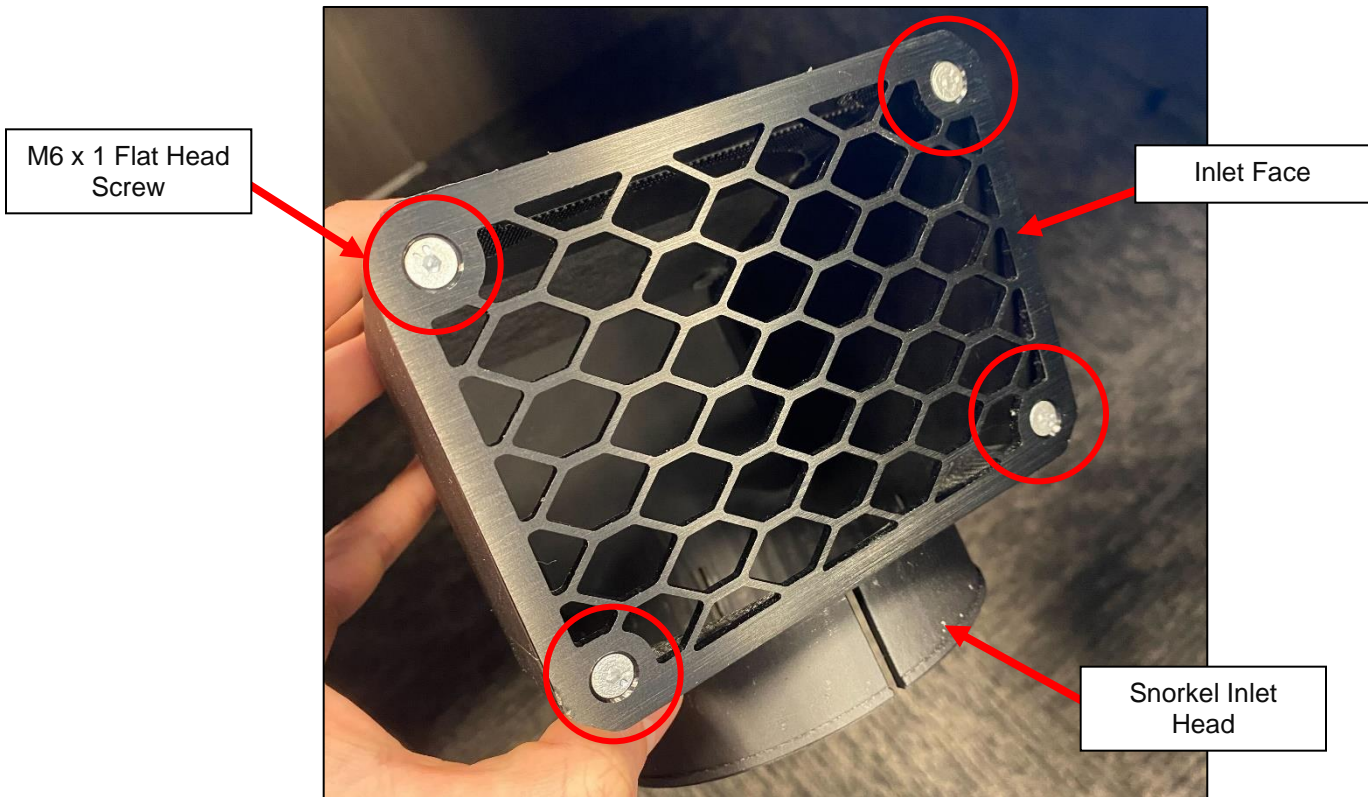

Figure 15
24. Locate the Snorkel Inlet Head, Inlet Face and (4) four M6 x 1 Flat Head Screws, 10mm. Position the Inlet Face over the opening of the Snorkel Inlet Head and secure with the (4) four M6 Screws. *Figure 15.*